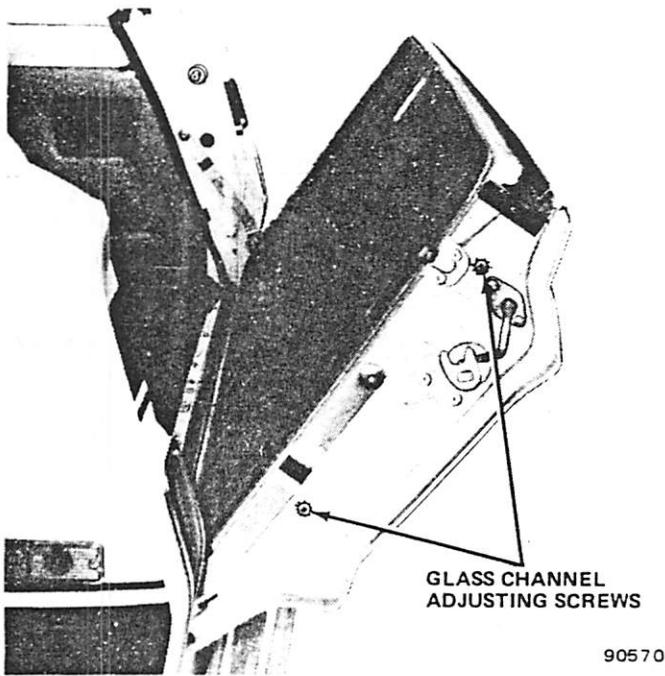

Fig. 3H-3 Glass Channel Adjustment
(1) If adjustment is necessary, loosen two cap-screws on either side panel of tailgate (fig. 3H-3).
Current is supplied from battery to ignition switch to fuse panel, through a 30-amp circuit breaker (located in the fuse panel), and to instrument panel tailgate window switch (fig. 3H-4).
Current is supplied directly to fuse panel, through a 30-amp circuit breaker, and to red w/tr (No. 46) wire of tailgate window switch (fig. 3H-4).